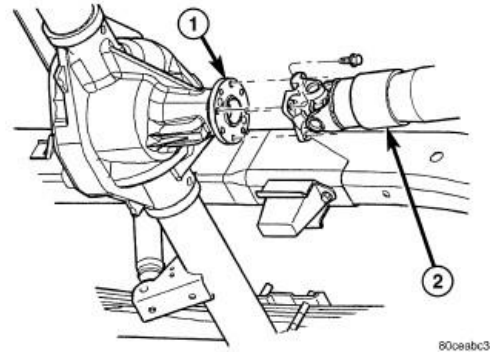

Figure 12 – Pinion Flange
89. Secure the relay and bracket assembly with two nuts to the strut tower (Figure 12).
28. Remove pinion flange (1) bolts from propeller shaft (2) (Figure 12).